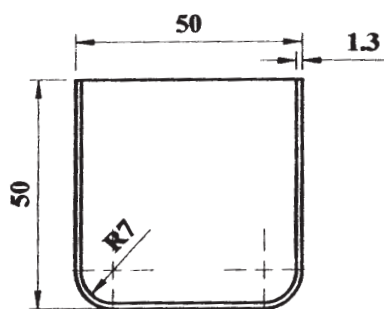

Fig. 3: Drawing component
- Find out the blank size by graphical method for drawn component shown in fig.3. And the number of draws required. [6]
- Calculate the blank size and number of draws required for the drawn component in fig.3. [4]